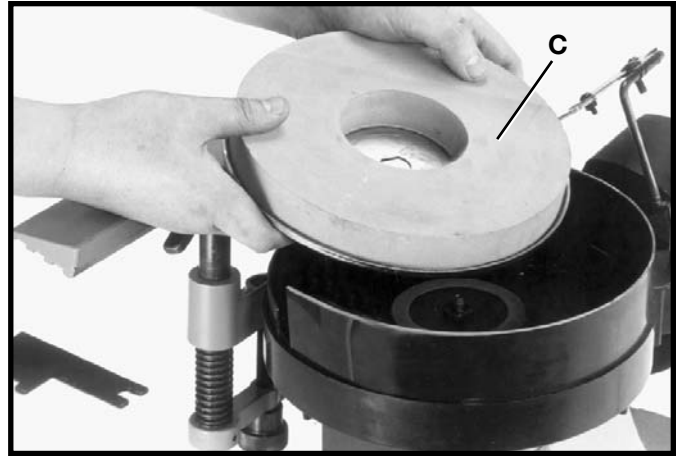

Fig. 59
2. Remove and replace the wet wheel (C) as shown in Fig. 59.